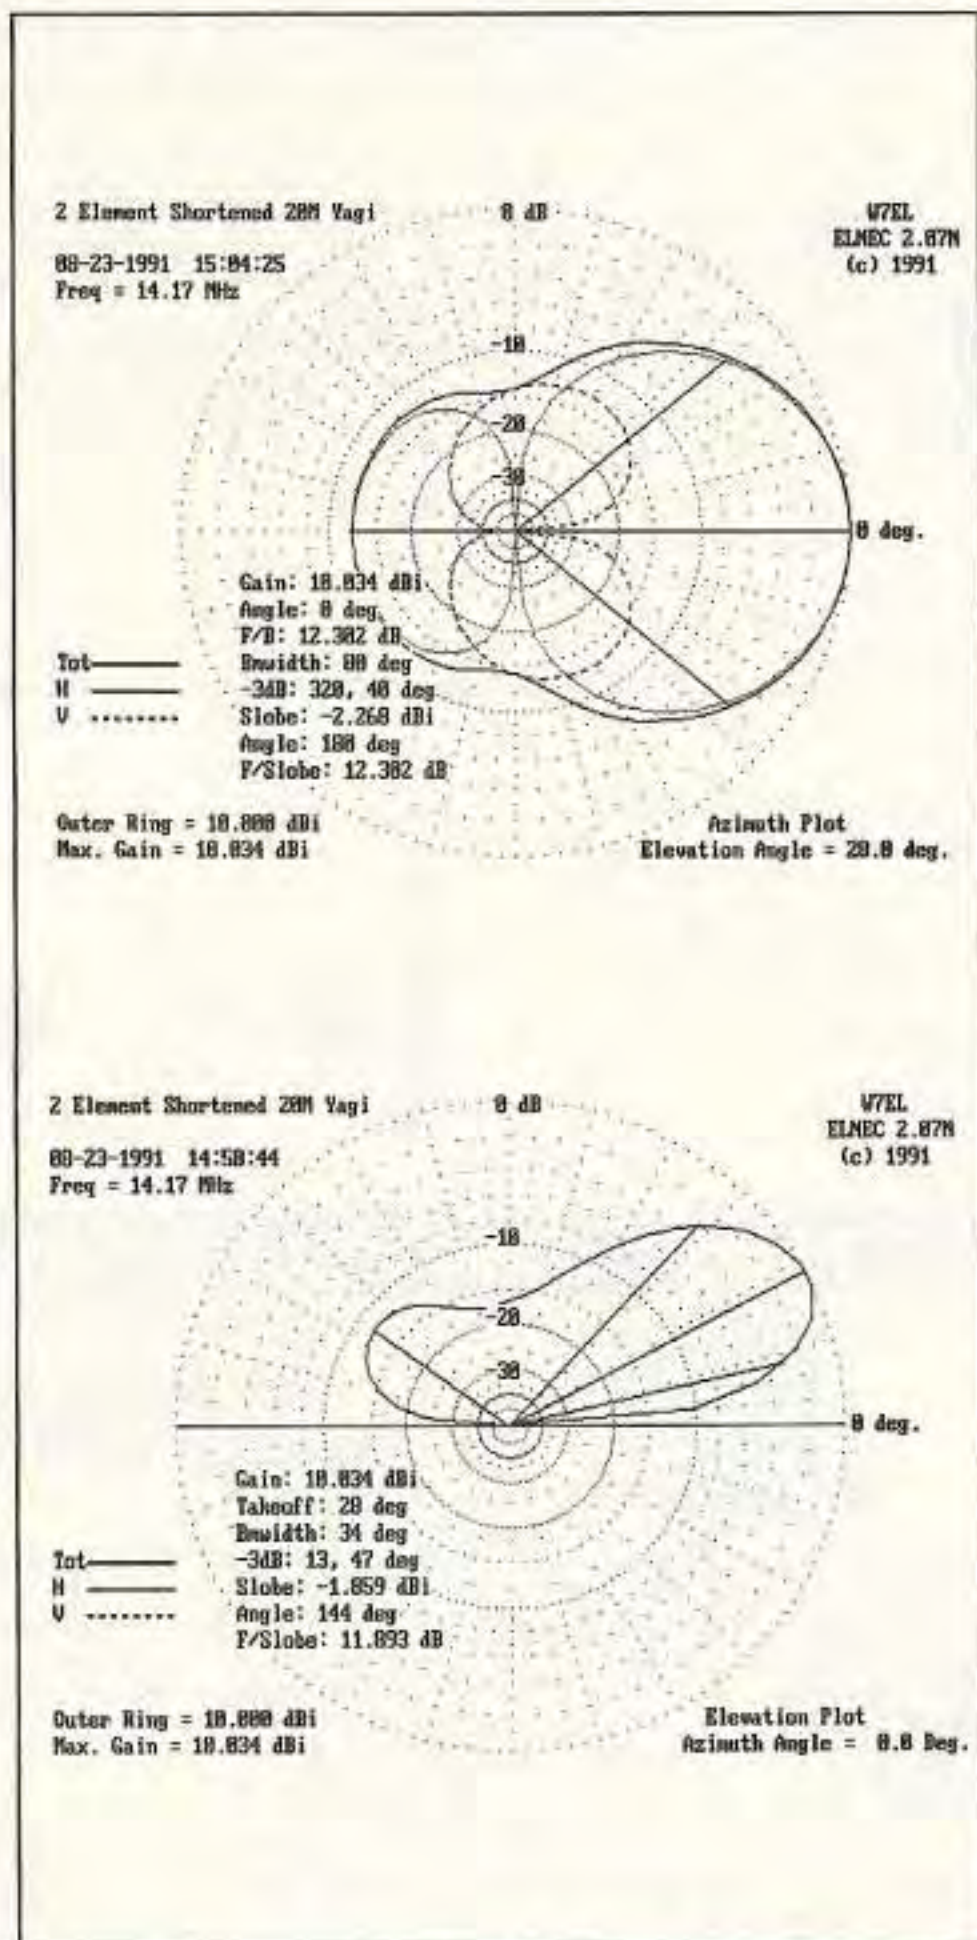

Figure 2. a) Azimuth plot of the yagi using the ELNEC program. b) The elevation plot.
- Gain** This was paramount in importance, because they can't hear you if they can't hear you . . . Every available parameter was "tweaked" for maximum forward gain commensurate within the SWR and bandwidth constraints. The result is +10 dBi of forward gain at the frequency of interest, increasing to +11 dBi in the general portion of the band (albeit with reduced front-to-back) and decreasing to +9 dBi in the CW portion of the band. (See Figure 2.)
4. Pattern We'd all like to offer a "laser beam" to the world when we transmit, but I settled for reasonable front-to-back and front-to-side ratios with this antenna because of the constraints placed upon it. The front-to-back ratio varies from 12 to 18 dB, or 2 to 3 S-units in both calculated and on-the-air tests. With the Pacific to my back when beaming Europe or Africa, and the Atlantic at the flank when beaming the South Pacific and points west, it has proven to be a good choice. For stations at a reasonable distance, a distinct "null" appears off the sides of the antenna, probably due to the horizontally polarized signals predominating. (See Figure 2.) I'll admit that I placed pattern after gain when optimizing this yagi, but I have no difficulty determining when I point at a station (or its propagation path). This is very unlike a commercial "mini" I had occasion to operate from a friend's shack a few years ago, where it seemed we were turning a vertical! This antenna does have a usable pattern.